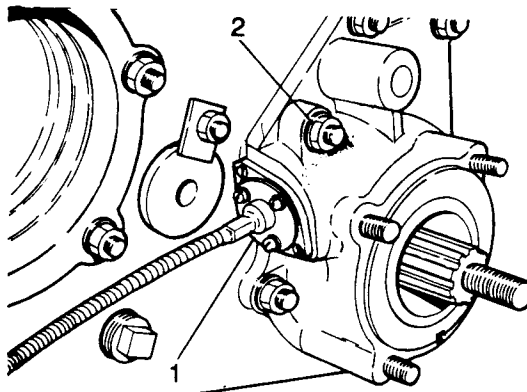

Fig H1.16
- (3) Refer to Fig H1.16. Refit the speedometer cover fixings (2).
- (4) Refit the speedometer cable plate (1) to the gearbox.
- (5) Replace the transmission brake (see Sub-sub-section K2.4, Chapter 2).
- (6) Refill the transfer box with the correct grade of oil (see Sub-section H2.5).